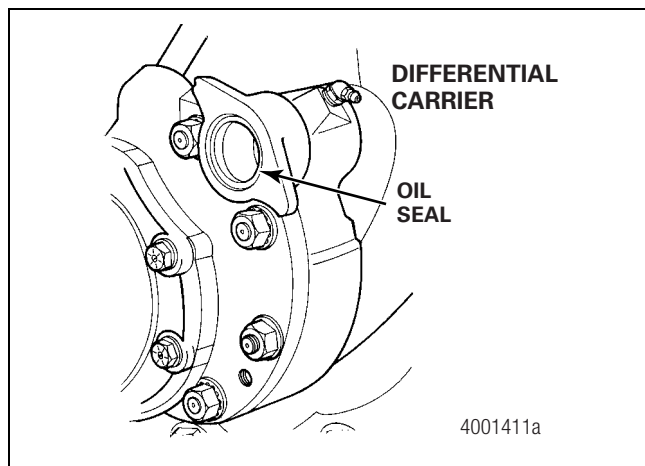

Figure 5.21
2. Install a new oil seal into the bearing cage. The seal lip must be installed toward the bushing. Figure 5.21.